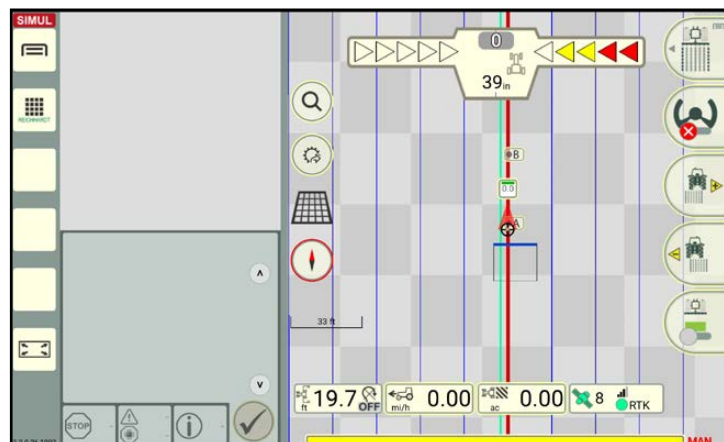

Fig. 96: Parallel track pattern after stopping the reference track recording
If the prompt to stop track recording was confirmed, you will automatically switch to field marking mode (see Fig. 96).
- A parallel track pattern is created for the last created reference track (see Fig. 96);